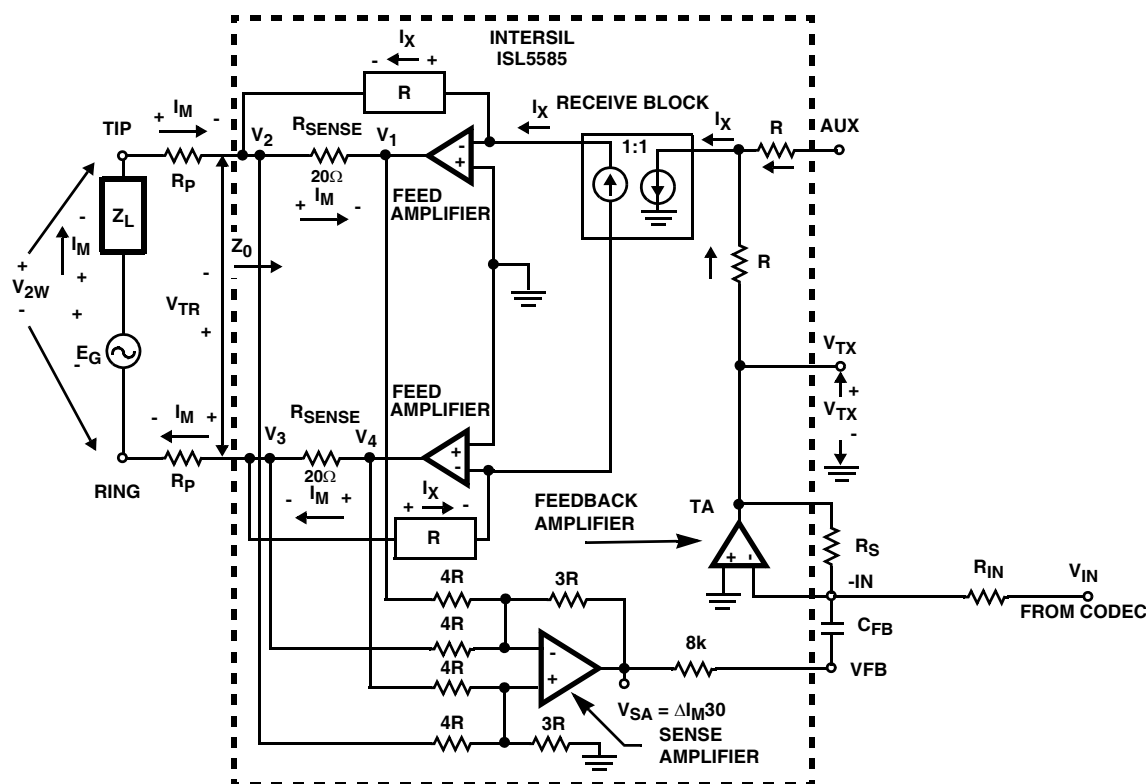

FIGURE 4. AC SIGNAL TRANSMISSION MODEL
The feedback mechanism for monitoring the AC portion of the loop current consists of two amplifiers, the Sense Amplifier (SA) and the Transmit Amplifier (TA). The AC feedback signal is used for impedance synthesis. A detailed model of the AC feed back loop is shown in Figure 4.
The Sense Amplifier is configured as a 4 input differential amplifier with a gain of 3/4. The voltage at the output of the sense amplifier (V_{SA}) is calculated using superposition. V_{SA1} is the voltage resulting from $V1$, V_{SA2} is the voltage resulting from $V2$ and so on (reference Figure 4).
V_{TR} is defined in Figure 4, note polarity assigned to V_{TR} :
Node Equation at ISL5585 AUX input, Figure 4
4-wire to 2-wire gain across the ISL5585 is equal to the V_{2W} divided by the input voltage V_{IN} , reference Figure 4. The receive gain is calculated using Equation 32.
The 2-wire to 4-wire gain is equal to V_{TX}/E_G with $V_{IN} = 0$, reference Figure 4.